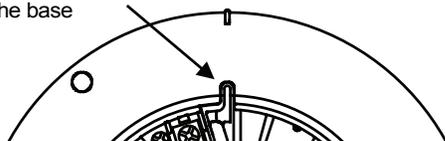

Figure 2: Eliminating the Locking Feature
1. To eliminate this feature, break off the locking tab (refer to Figure 2), and then install the detector.